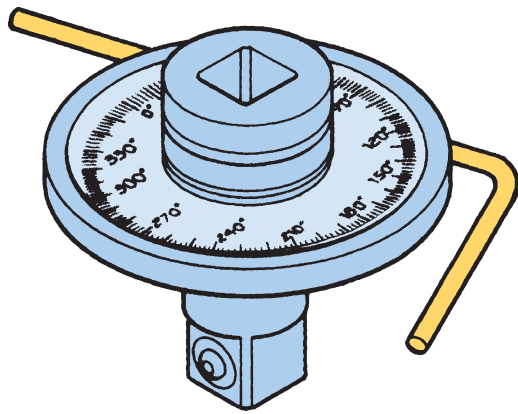

FIGURE 34-46 Torque angle can be measured using a special adaptor.
- Rotate head bolts an additional 90 degrees ● **SEE FIGURES 34-46 AND 34-47.**